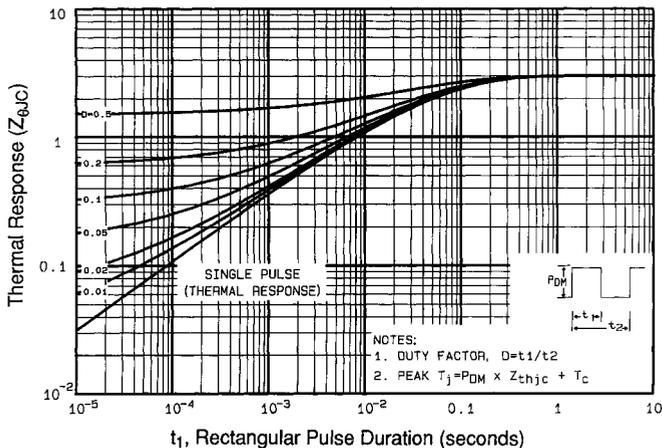

Fig 11. Maximum Effective Transient Thermal Impedance, Junction-to-Case
① Repetitive rating; pulse width limited by max. junction temperature (See Figure 11)
③ $I_{SD} \leq 9.2A$, $di/dt \leq 110A/\mu s$, $V_{DD} \leq V_{(BR)DSS}$, $T_J \leq 150^\circ\text{C}$